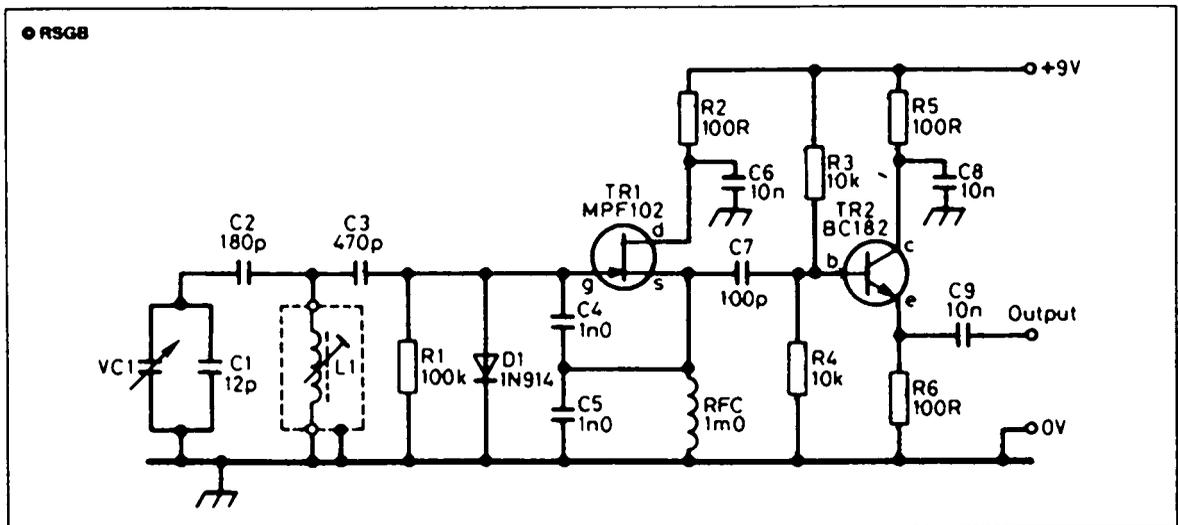

Figure 2 The variable-frequency oscillator uses a field-effect transistor (FET)
Figure 2 shows the circuit of the *VFO*. It is a tried and tested circuit, and should work first time. It uses a *field-effect transistor* (FET) for *TR1*, the oscillator itself. *RFC* is a *radio-frequency choke*, a coil of wire which will pass a direct current (DC) but which will prevent radio-frequency (RF) signals getting through.